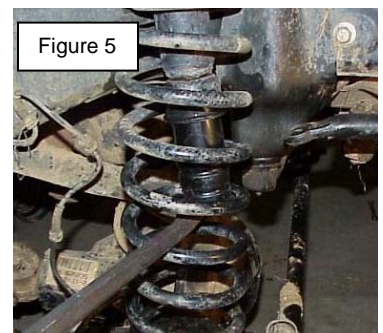

Figure 5
12. Install the bump stops and reinstall the coil spring in the same location as removed. See figure 5.
8. Install the coil spring spacer onto the upper mount and reinstall the bump stop mounting cup. See figure 5.